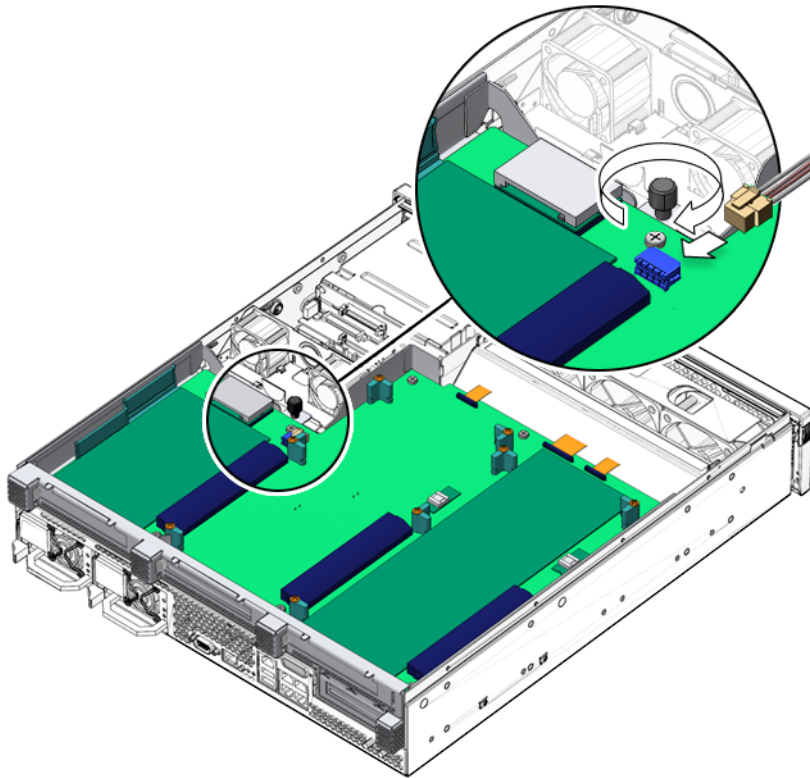

FIGURE 6-4 Reconnecting J2 and Tightening the Thumbscrew.
5. Tighten the thumbscrew and reconnect the cable at J2 (FIGURE 6-4).